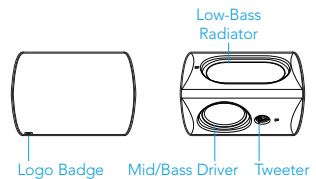

Figure 2
- Remember to always point the speakers in such a way as to allow water to roll off the driver cone and/or low-bass radiator. Always position the speakers so that the side with the mid/bass driver and tweeter—this is the side with the Definitive Technology logo badge (see Figure 2)—faces the listening area.